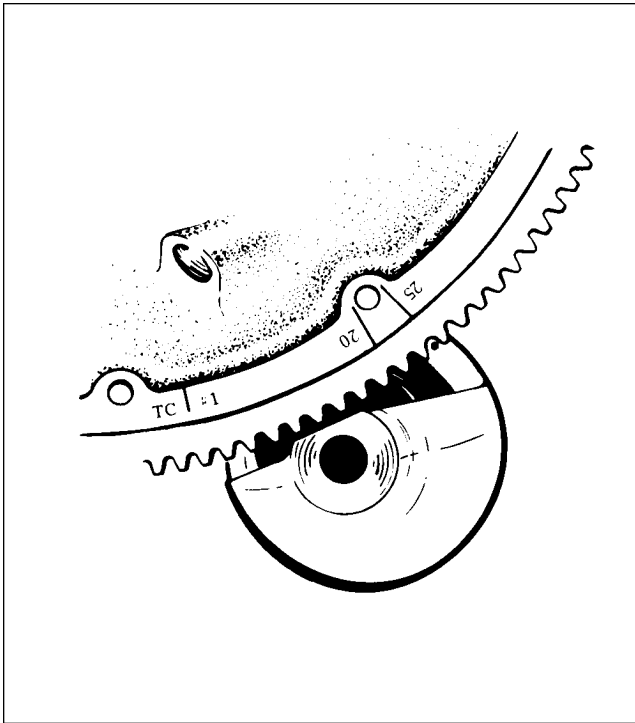

Figure 74-28. Engine Timing Marks
1. Remove the spark plug from No. 1 cylinder and place a thumb over the spark plug hole. Rotate the crankshaft in direction of normal rotation until the compression stroke is reached, this is indicated by a positive pressure inside the cylinder tending to push the thumb off the spark plug hole. Continue rotating the crankshaft in direction of normal rotation until the advance timing mark (20) on the front face of the starter ring gear is in exact alignment with the small hole located at the two o'clock position on the front face of the starter housing. (Refer to Figure 74-28.)